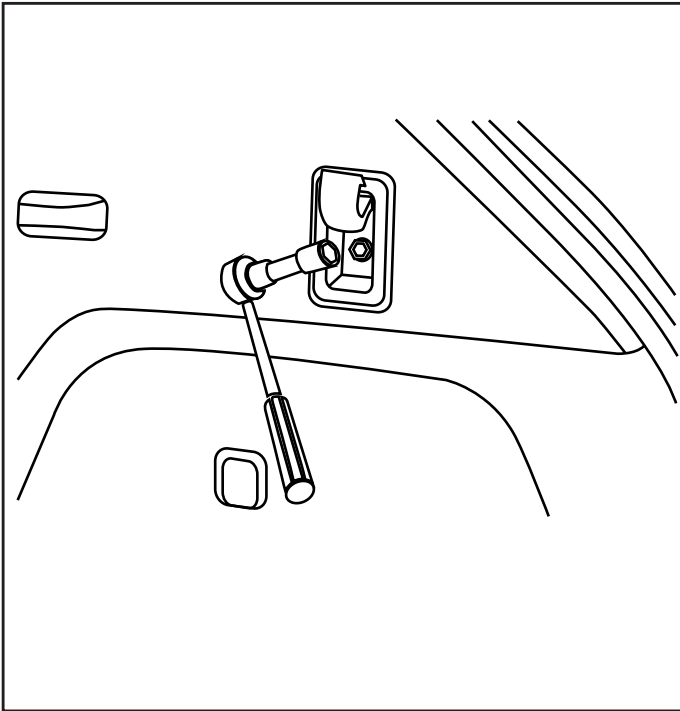

Fig. 12
13. Remove upper hook with ratchet and 10mm socket (Fig. 12).